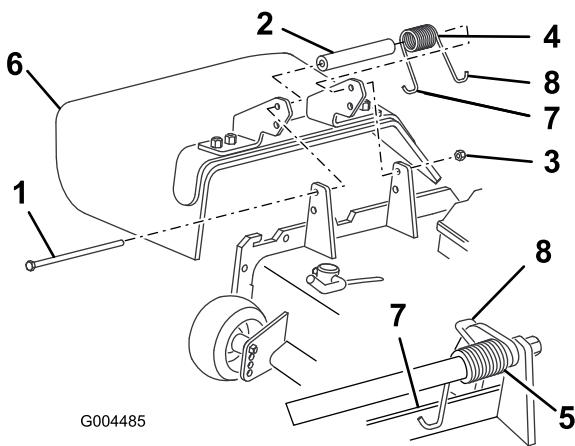

Figure 80
- Remove the locknut, bolt, spring and spacer holding the deflector to the pivot brackets (Figure 80). Remove damaged or worn grass deflector.
3. Place the spacer and spring between the replacement grass deflector brackets (Figure 80). Place the left hand J hook end of the spring behind the deck edge.
Note: Make sure the left hand J hook end of the spring is installed behind the deck edge before installing the bolt as shown in Figure 80.
4. Install the bolt and nut. Place the right hand J hook end of the spring around the grass deflector (Figure 80).